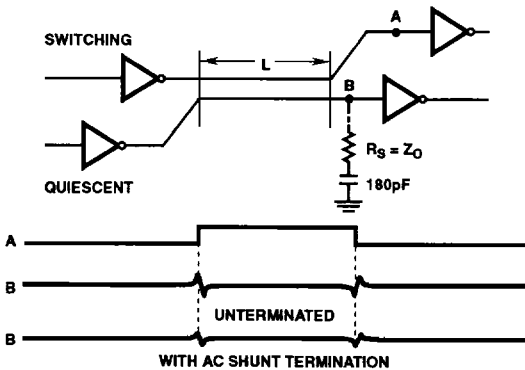

FIGURE 28. SIGNAL CROSSTALK RESULTS FROM PARALLEL TRACES AND IS REDUCED BY TERMINATION
- Avoid Crosstalk Problems - As shown in Figure 28, if two PCB interconnect copper traces on the same layer run closely spaced in parallel for enough distance (L) without terminations, a noise glitch at B can be large enough to switch that input. Rules to avoid problematic crosstalk: